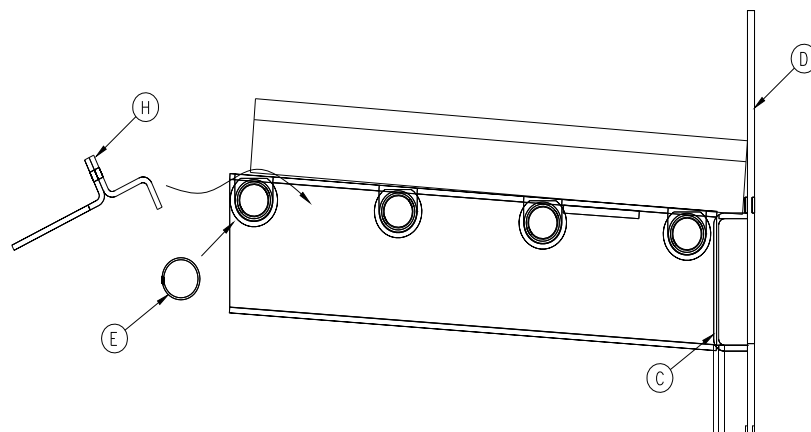

FIGURE 8b
2. Put them on the horizontal air duct (C) (see Figure 8b). Afterwards, push them towards the bottom and sides so that they rest on the back of the firebox (D) and on the side air ducts. Install the baffle support/extension (H) ensuring that it fits between the front risers and hold it in place. Install the front secondary air tube as show in figure 3.4c ensuring air holes face forward. Install the cotter pins as in Figure 8. Installing the front secondary air tube (E) will stabilize baffle assembly during the next step.